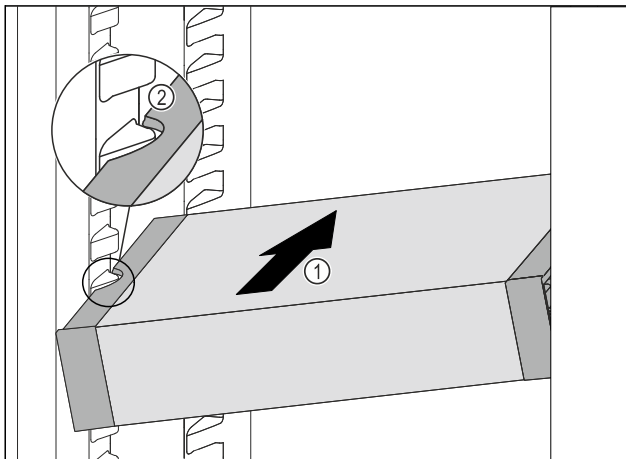

Fig. 196
- ▶ Insert the VarioSafe into the fridge section at an angle Fig. 196 (1) until the recesses in the side Fig. 196 (2) of the VarioSafe are at the level of the support rib in the fridge section.